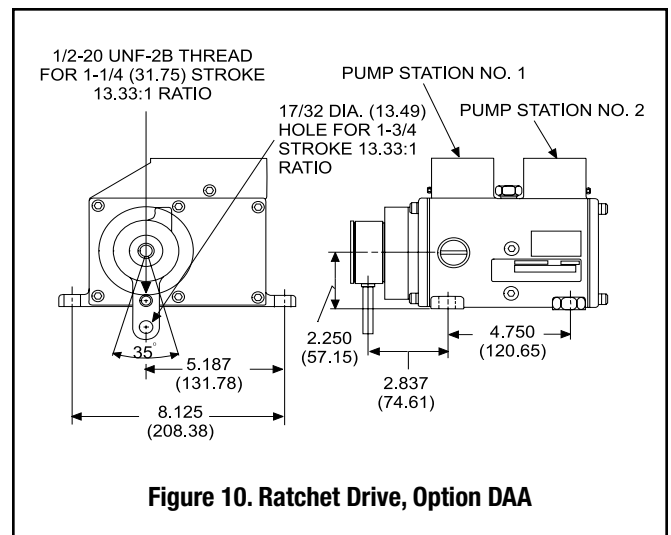

Figure 10. Ratchet Drive, Option DAA
**Ratchet Drive.** This option allows the drive-shaft to be driven by reciprocating motion of your equipment. Two mounting holes allow connection to reciprocating rods with 1-1/4 or 1-3/4 inch (31.75 or 44.45 mm) stroke. Figure 10 illustrates the ratchet drive, option DAA.